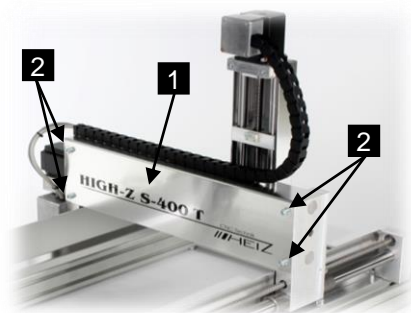

Figure 34: Cover Y-axis
- 2 Loosen and remove the four screws (Fig. 34/2)
- 3 Cover (Fig. 34/1) to remove the Y-axis.